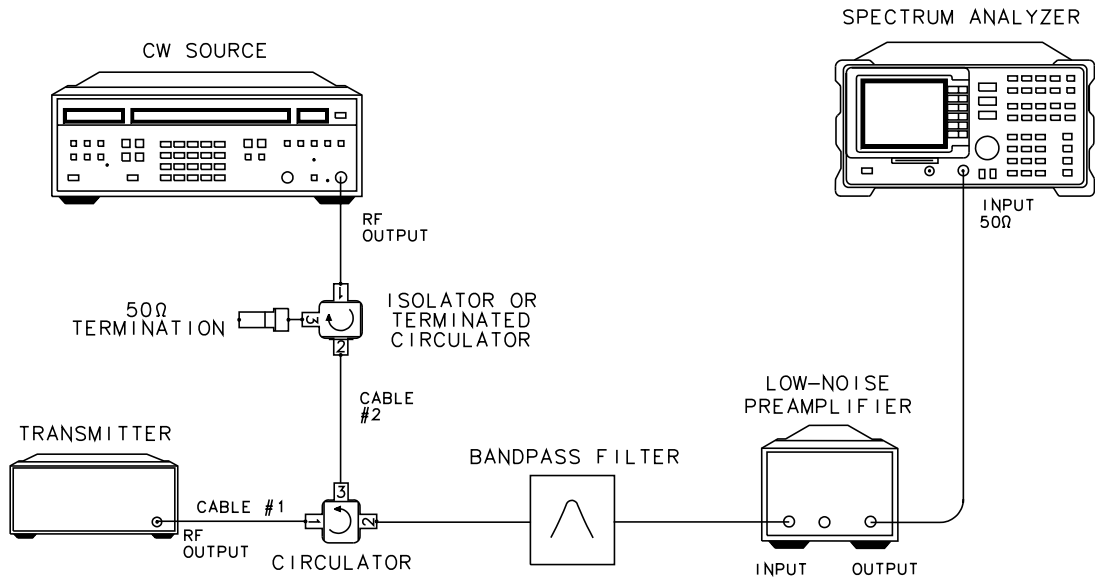

Figure 33 Test Setup for Intermodulation Attenuation - RX Band
- 6 Read the text and make the test setup connections described in the displayed text. Refer to Figure 33 on page 79 for the test setup.
For the test setup illustrated in Figure 33 on page 79, the base station output power is reflected from the bandpass filter (BPF), through the circulator, and into the isolator/circulator at the output of the CW source. Make certain that this isolator/circulator is capable (rated) of dissipating the output power generated by the base station transmitter. Failure to supply an adequately rated isolator/circulator can damage the isolator/circulator or the CW source.